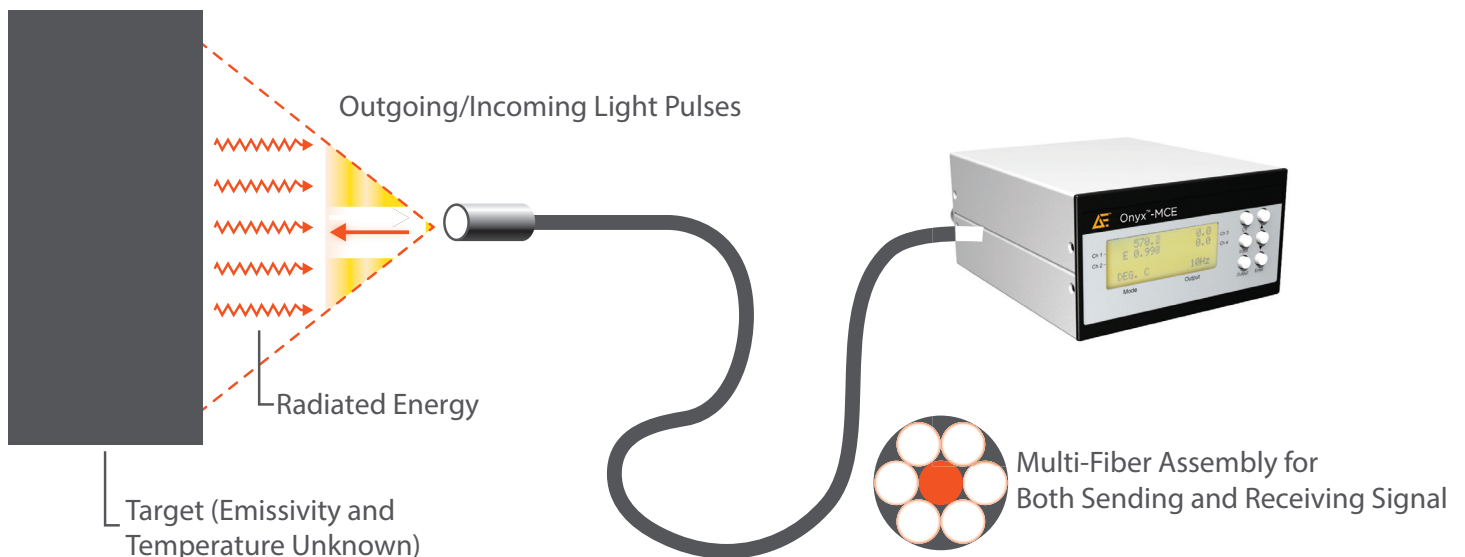

Figure 4. Measuring emissivity
2. The emissometer receives the reflected pulses via the outer fibers of the multi-fiber cable and measures the intensity of light reflected from the target (Figure 4, below).